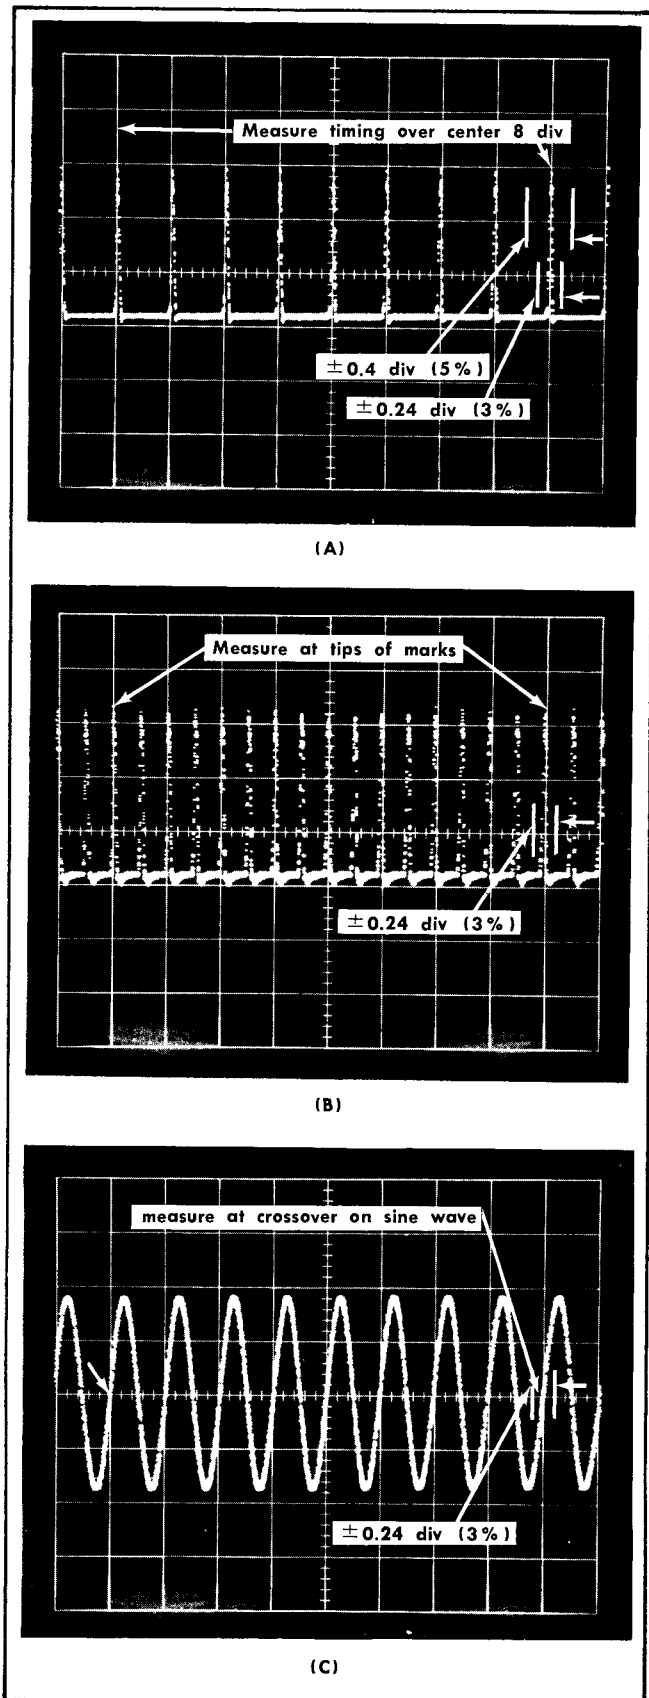

Fig. 7-33. Typical Indicator Oscilloscope displays for checking the timing accuracy.
b. Check the timing accuracy of the Type 3T2 according to Table 7-5. See Fig. 7-33. Make a note of tolerance of the DISPLAY MAG and TIME MAGNIFIER positions and compare to the RANGE position tolerance. Check the timing with the TIME POSITION control clockwise, centered and counterclockwise with the first part off the sweep excluded as listed in Table 7-5.